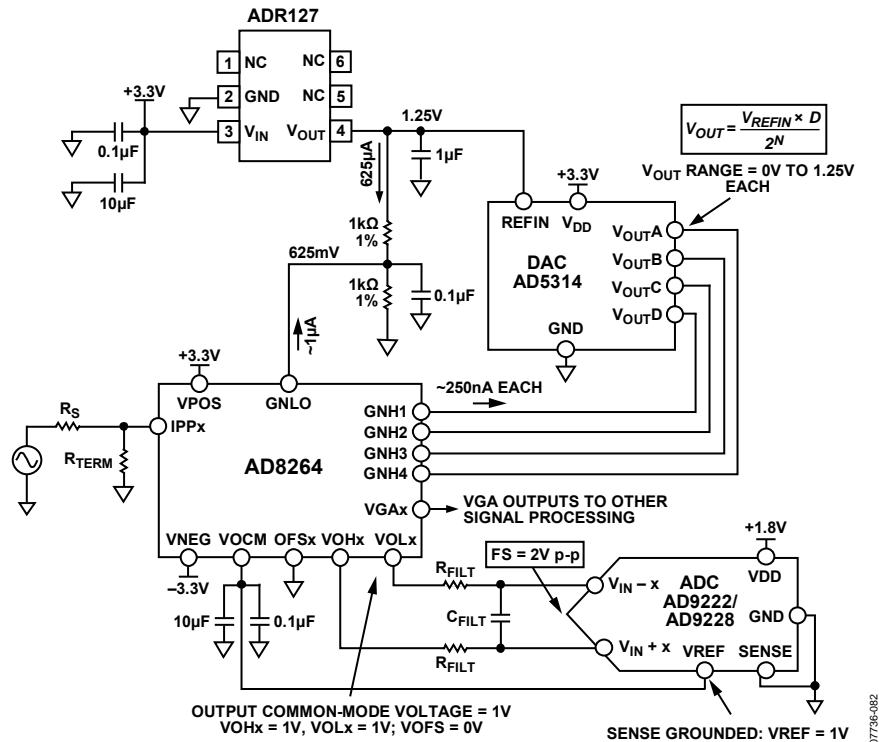
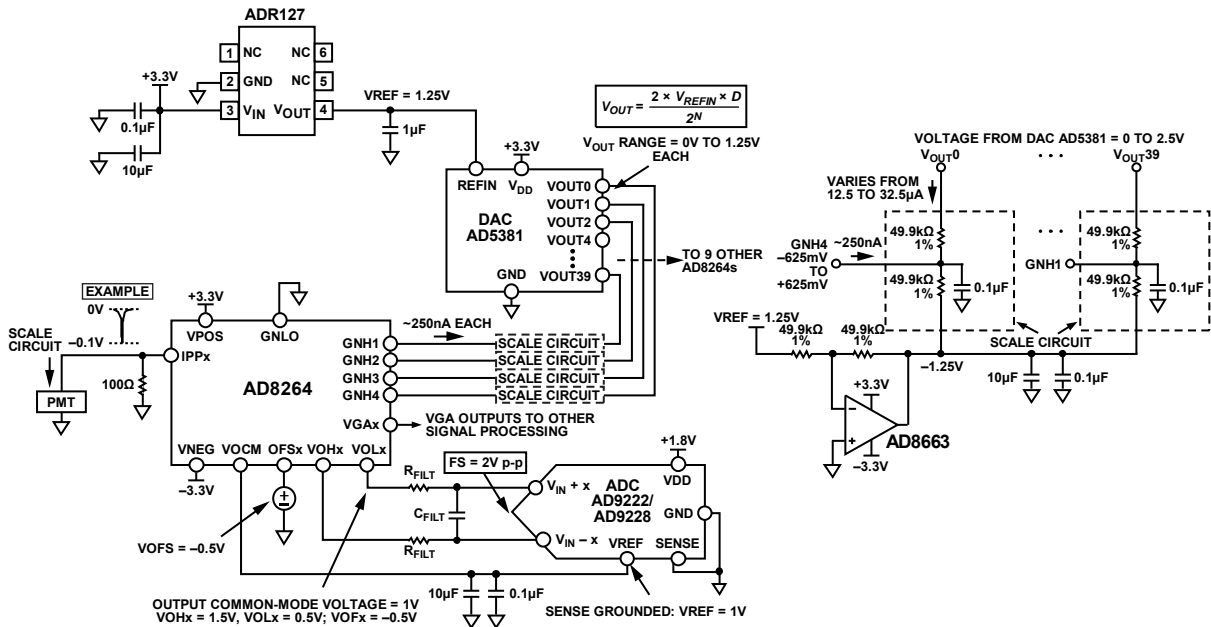

Figure 112. Application Concept of the AD8264 with the AD5314 10-Bit DAC and the AD9222/AD9228 12-Bit ADC
Figure 113. Concept Application of AD8264 with 40-Channel AD5381 12-Bit, 3 V DAC and AD9222/AD9228 12-Bit ADC
The AD8264 is particularly well suited for use in the analog front end of medical PET imaging systems. Figure 112 shows how to use the AD8264 with the AD5314 (a 4-channel, 10-bit DAC) and the AD9222/AD9228 (an octal or quad, 12-bit ADC, respectively). The DAC sets the gain of the AD8264. Note that the full gain span of 24 dB is achieved with this setup because the gain control input range of the AD8264 is very close to 1.25 V. The GNLO pin must offset by $1.25/2 = 625$ mV because the gain control input is bipolar around the voltage applied at GNLO. This is done with two 1 k Ω , 1% resistors. The approximately 1 μ A of bias current flowing from the GNLO pin does not contribute a significant error because the basic gain error of the AD8264 is the limiting factor.
Figure 112 also includes the DAC output equation, which indicates that the output can vary between 0 V and $V_{REF} = 1.25$ V.
The single-ended-to-differential amplifier of the AD8264 amplifies the VGA output signal by 6 dB and can provide the required dc bias of the AD9222/AD9228, as shown in Figure 112. The ADC is connected with the default internal reference because the SENSE pin is grounded. With this connection, the AD9222/AD9228 VREF pin is an output that provides 1 V; this is then connected to the VOCM input of the AD8264, which sets the output common-mode voltage of the VOHx and VOLx pins to 1 V. This voltage is very close to the recommended optimal value of $V_{DD}/2 = 0.9$ V. With this configuration, the ADC inputs are set to a full-scale (FS) of 2 V p-p.
The dc connected concept example in Figure 113 is an application with the 40-channel AD5381, 3 V, 12-bit DAC. The main difference between this example and Figure 112 is that, for the same ADR127 1.25 V reference, the full-scale output of the DAC is from 0 V to $2 \times VREFIN = 2.5$ V. Two options for gain control include the following:
- Use the same circuit as in Figure 112 but use only half the DAC output voltage from 0 V to 1.25 V. This is the simplest solution, requiring the fewest extra components. Note that the overall gain resolution increases by one bit to 11 bits over the 10-bit AD5314.
- Ground GNLO and scale the DAC output so that the GNHx inputs vary from -0.652 V to $+0.625$ V. Figure 113 shows a possible circuit implementation using a divider between the DAC output and a -1.25 V reference.
Figure 113 shows how the AD8264 is connected in a PET application. The PMT generates a negative-going current pulse that results in a voltage pulse at the preamplifier input and a differential output pulse on VOLx and VOHx.
A convenient method of verifying and customizing the signal chains shown in Figure 112 and Figure 113 is by ordering the corresponding evaluation boards available on www.analog.com. The AD8264-EVALZ is a platform through which the user can quickly become familiar with the features and performance capabilities of the AD8264. See the Evaluation Board section for more information.